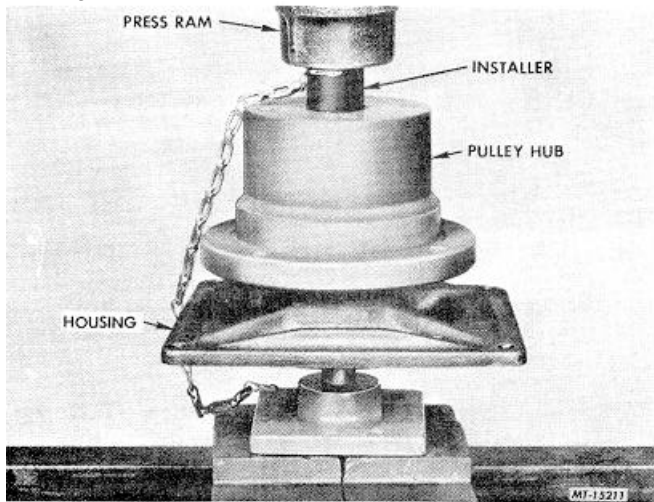

Fig. 134 Installing Pulley Hub on Shaft Using SE-1950 Installer and Support Fixture
3. Position the pulley hub on the end of shaft with the SE1950-2 installer placed o'er the pulley hub bore. Press hub on shaft until installer bottoms on end of shaft. This will properly position pulley hub on shaft, Fig. 134.